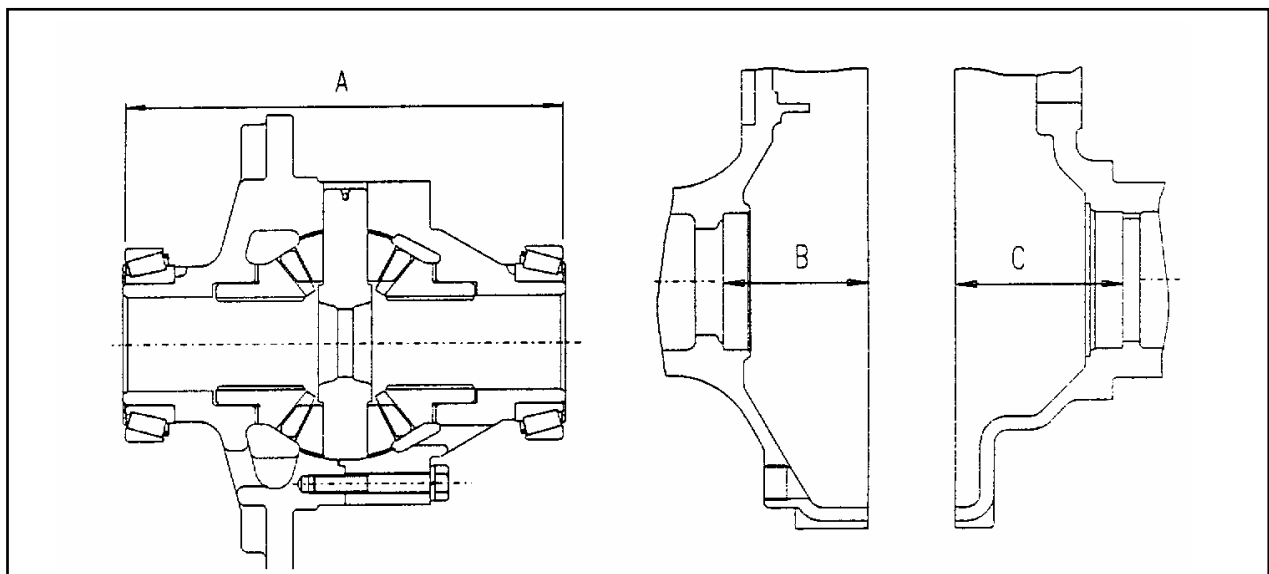

Figure B23 - Dimensions Required for Shimming Differential Bearings
- 3.2. Fit cones of bearings (items 12 & 13) onto input shaft ensuring that they are fully abutted.
4. Fit oil seal (item 16) into casing half (item 3).
5. Fit cups of bearings (items 13 & 14) into casing half (item 3), ensuring that they are fully abutted.
6. Position cups of differential cage bearings (items 17 & 18) onto their respective cones.
7. Measure dimension across cups (Dimension A) (See figure B23)
8. Ascertain the dimensions (B) and (C) (see figure B23). These dimensions are normally stamped on the inner faces of casing